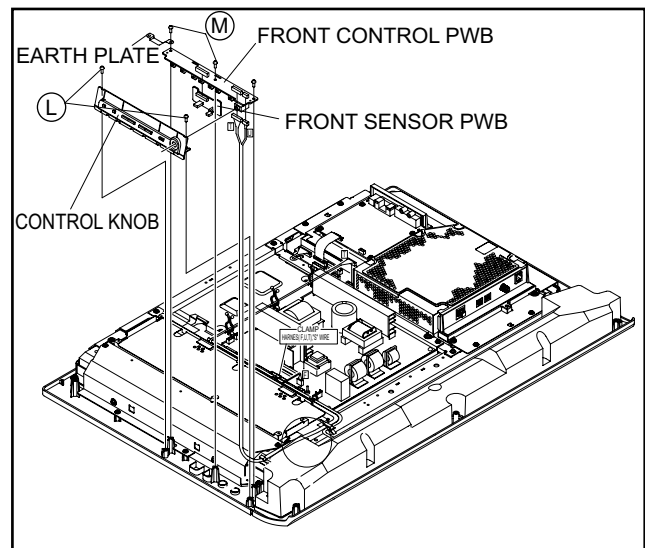

Fig.3-1-5
3.1.5 REMOVING THE FRONT CONTROL PWB AND FRONT SENSOR PWB (Fig.3-1-5)